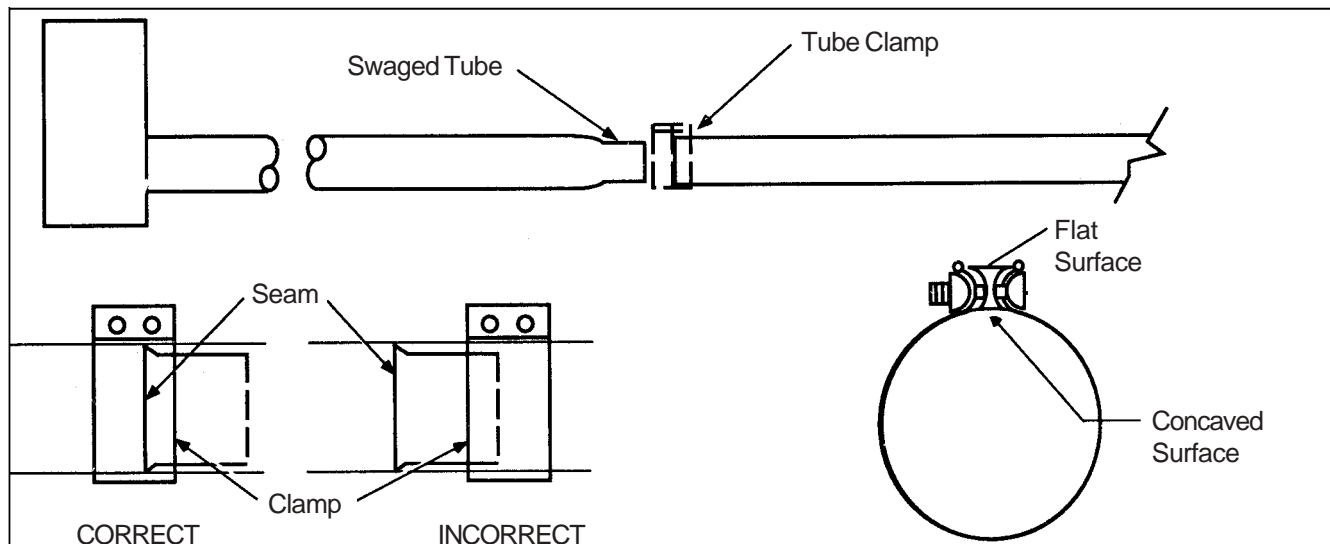

Fig. 2-9
**NOTE:** The tube clamps provided with the heater are pre-assembled at the factory. If a clamp is dismantled, it is important that upon re-assembly the spacer is properly inserted (see figure 2-9). The spacer's concave surface **must** face the radiant tube. Incorrect spacer placement will result in shearing of the bolt when torqued to the recommended specifications (40-60-lb. ft.).